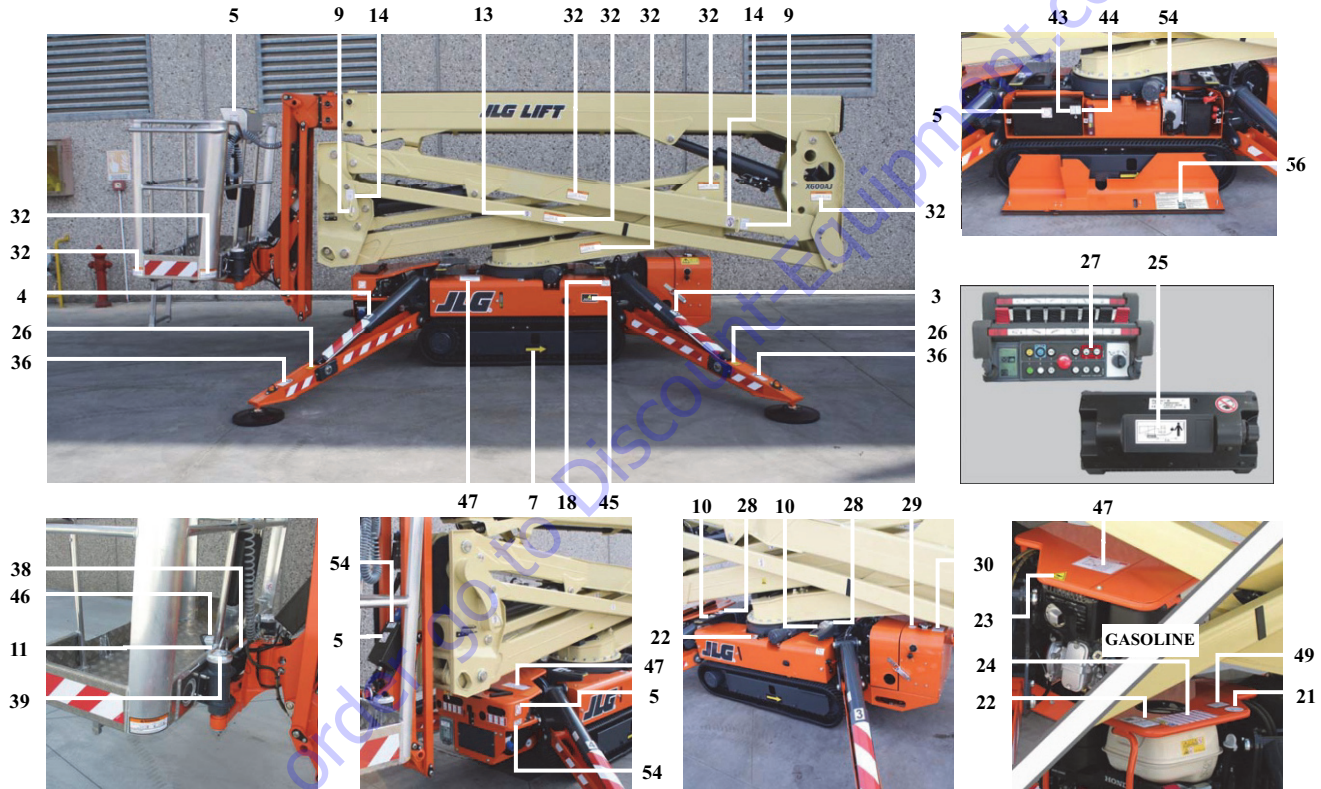

Figure 4-13. Decal Installation - Standard - Right Side
Table 4-2. X600AJ - Decal Installation - Standard (See Figure 4-12. and Figure 4-13.)
**Table 4-2. X600AJ - Decal Installation - Standard (See Figure 4-12. and Figure 4-13.)**